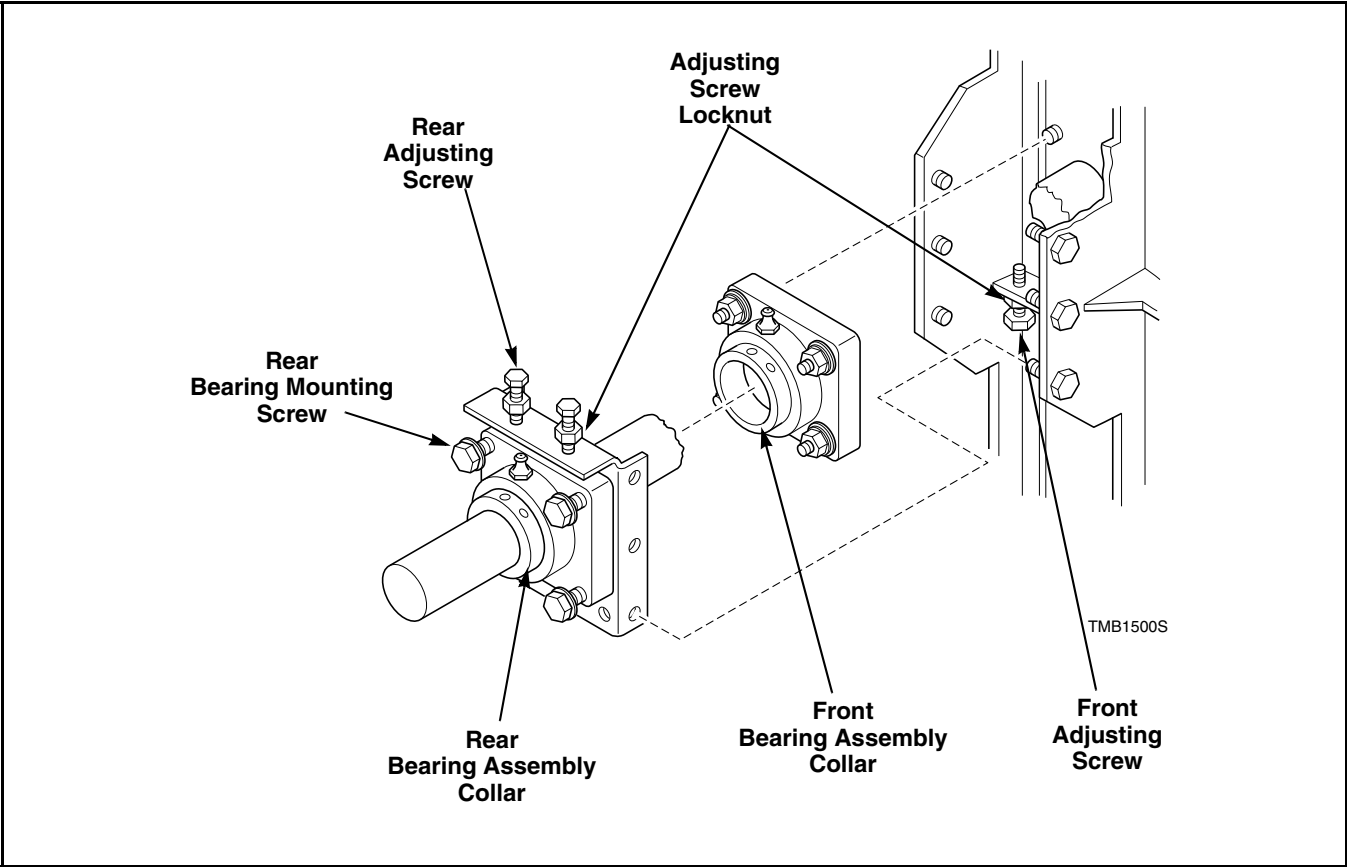

Figure 5
- c. Loosen rear bearing mounting screws. Refer to *Figure 5*.
- d. Loosen the locknuts on rear adjustment screws. Refer to *Figure 5*.
- j. Loosen setscrews in the front bearing assembly collar and rear bearing assembly collar. Refer to *Figure 5*.